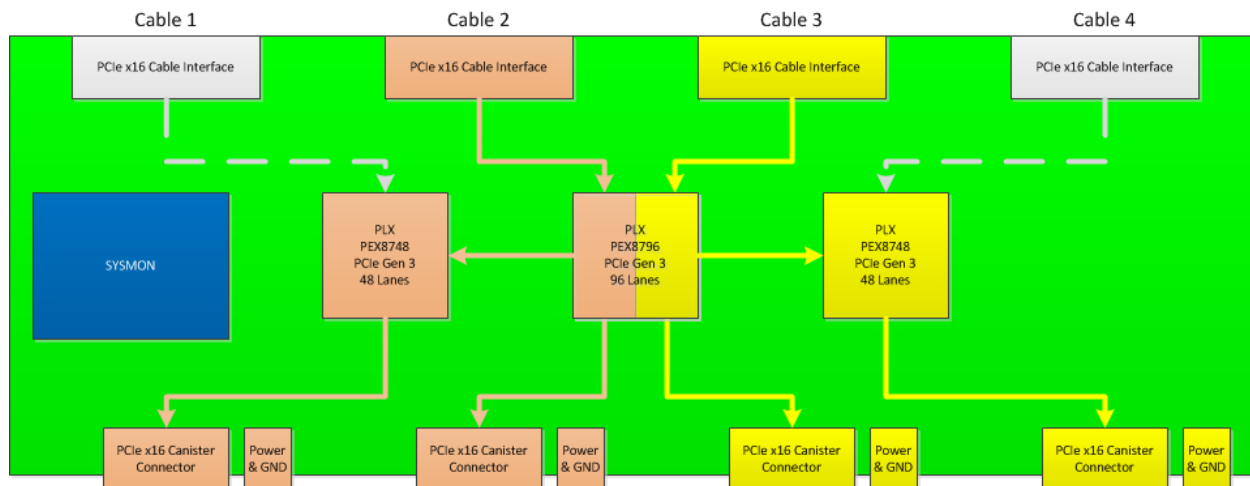

Figure 4.8 Main Backplane Connection Diagram for 2 Host Connections
- **Two host servers connected to one HDCA using one HIB each (See Figure 4.8)**
- Connect host 1 to cable Slot 2 (salmon path in figure 4.8) and connect host 2 to cable Slot 3 (yellow path).
- **One host server connected to one HDCA using two HIBs (Also Figure 4.8)**